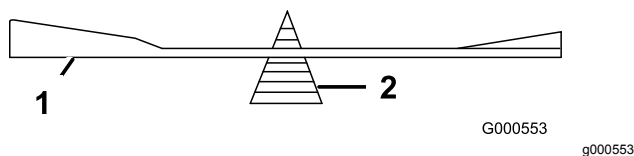

Figure 68
2. Check the balance of the blade by putting it on a blade balancer (Figure 68).